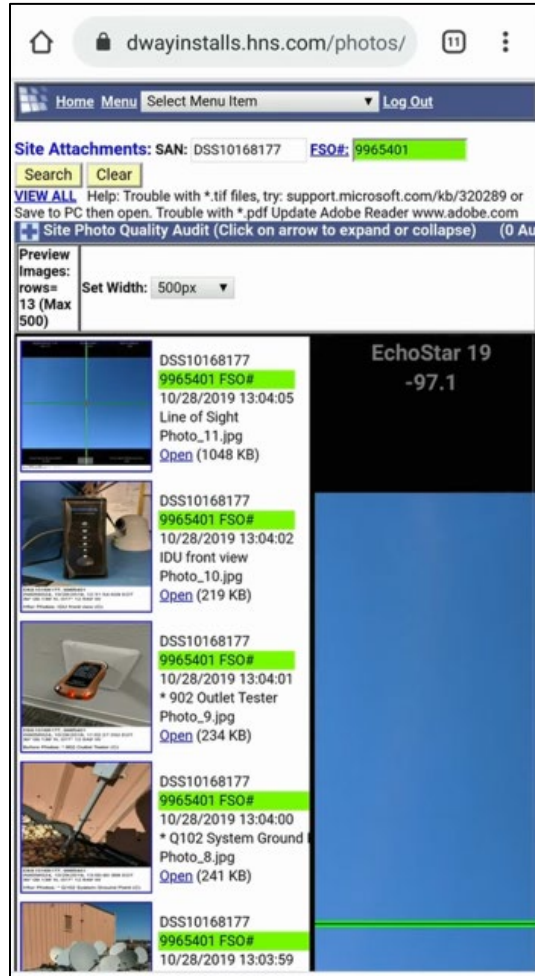

Figure 99: Site Photo Quality Audit page
6. Tap the camera icon (📷) at the top to launch the Site Photo Quality Audit page (Figure 99).